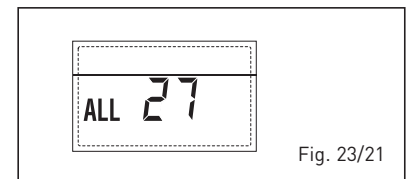

Fig. 23/21
- **COMPATIBILITY INPUT (S3) ANOMALY ONLY FOR SYSTEM 7 “ALL 28” (fig. 23/22)**